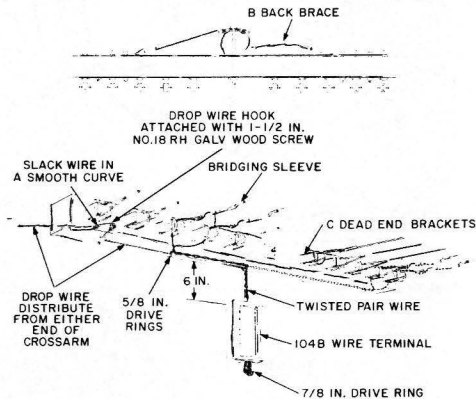

Fig. 4—For More Than Two Drops Use a 104B Wire Terminal Mounted on Pole
- 4.12** The wiring arrangement on DE crossarms equipped with back braces is shown in Fig. 4.